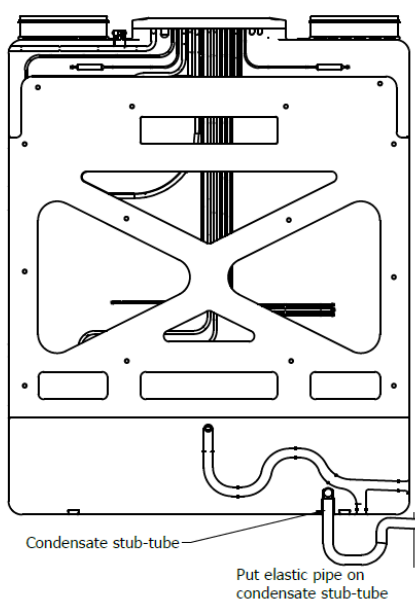

Figure 5 – condensate pipe installation
1. Put carefully elastic pipe on condensate stub-tube (see figure 5) - this point is for wall and floor installation.